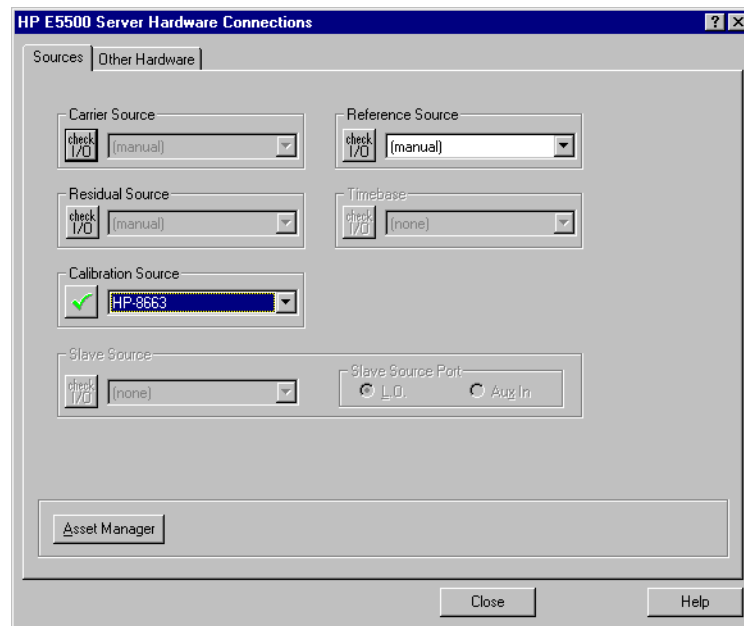
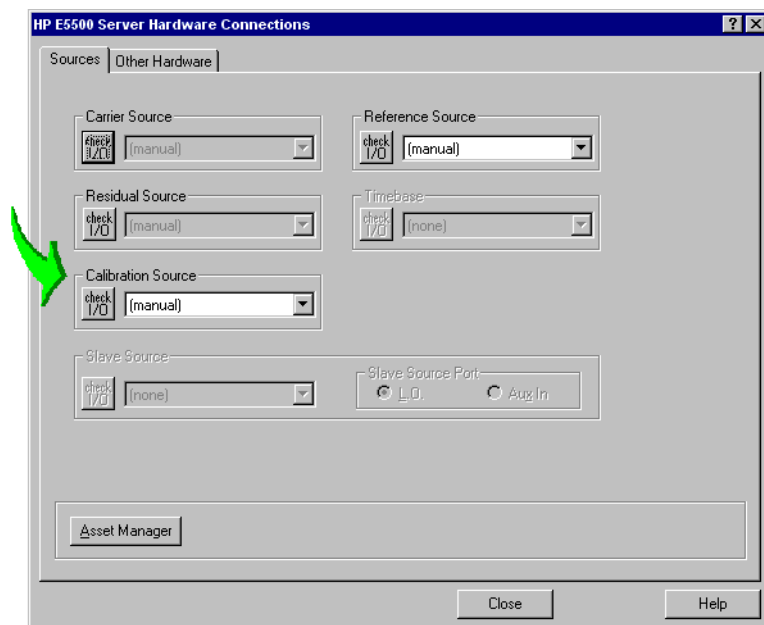

Figure 5-10 Green Check-mark Verifies I/O Check
Figure 5-11 Check I/O Connections
- 2 From the **Test Set** pull-down list, select **Agilent 8663**. A green check-mark appears after the I/O check has been performed by the software. See Figure 5-11. If a green check-mark does not appear, click the **Check I/O** button. See Figure 5-10.